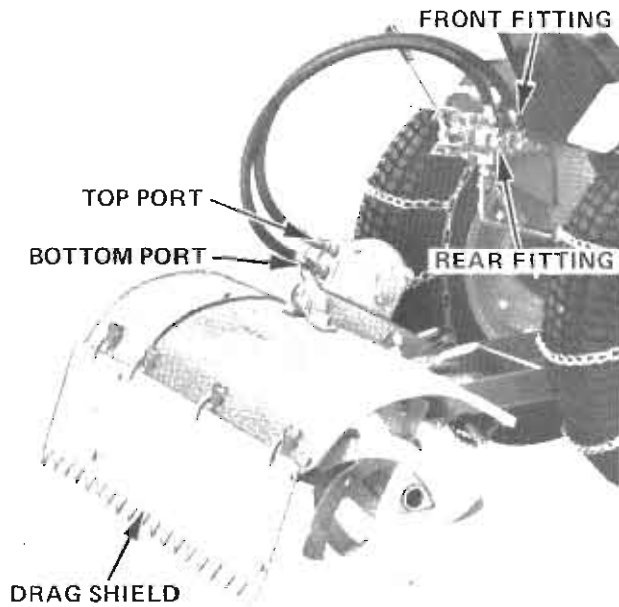

FIGURE 13 TILLER HOSE CONNECTIONS
2. Install hose adapter into tiller hydraulic motor work ports. Install hoses from the two side ports on the valve to the two work ports in the tiller hydraulic drive motor. The front hose on the valve should go to the top port and the rear hose on the valve should go to the bottom port in the tiller hydraulic drive motor. Refer to Figure 13.
4. Connect the drag shield to the mounting lugs on the tine shield and secure with two plain washers and cotter pins. Refer to Figure 13.